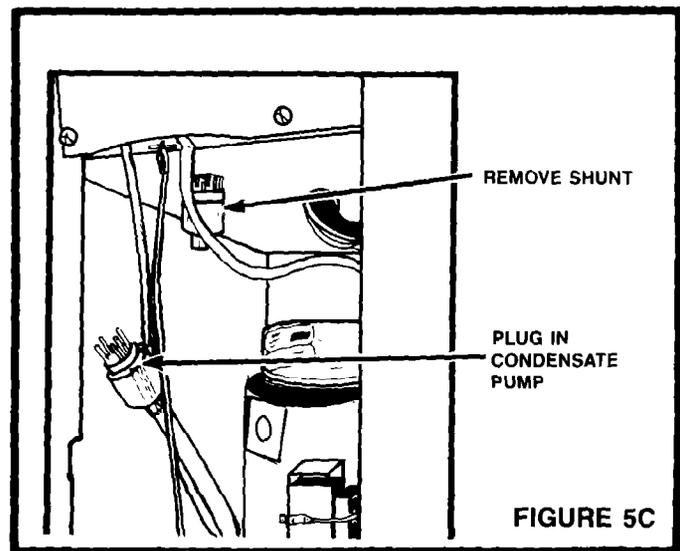

FIGURE 5C
- 5 Remove shunt from receptacle and plug in condensate pump. (See Figure 5C)